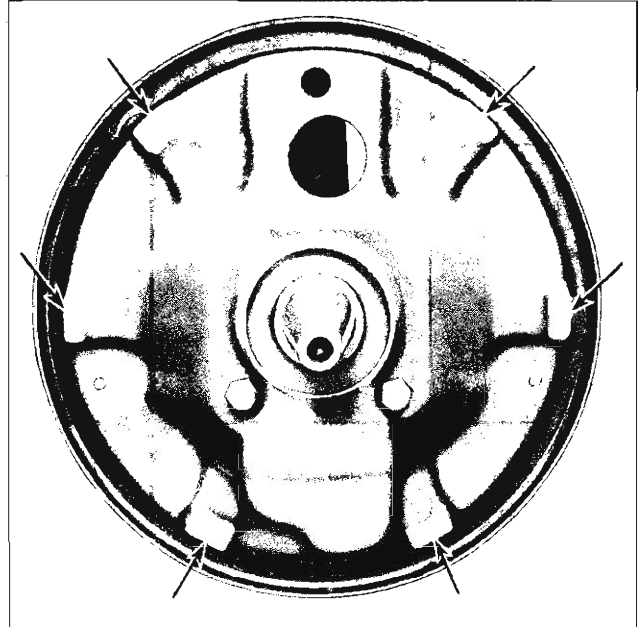

Fig. 20—Backing Plate Contact Surfaces
4. Check all brake flange plate attaching bolts to make sure that they are tight. Clean all rust and dirt from shoe contact faces on flange plate (fig. 20), using fine emery cloth.
14. Pry shoes away from backing plate and lubricate shoe contact surfaces with a thin coating of brake lube (fig. 20).